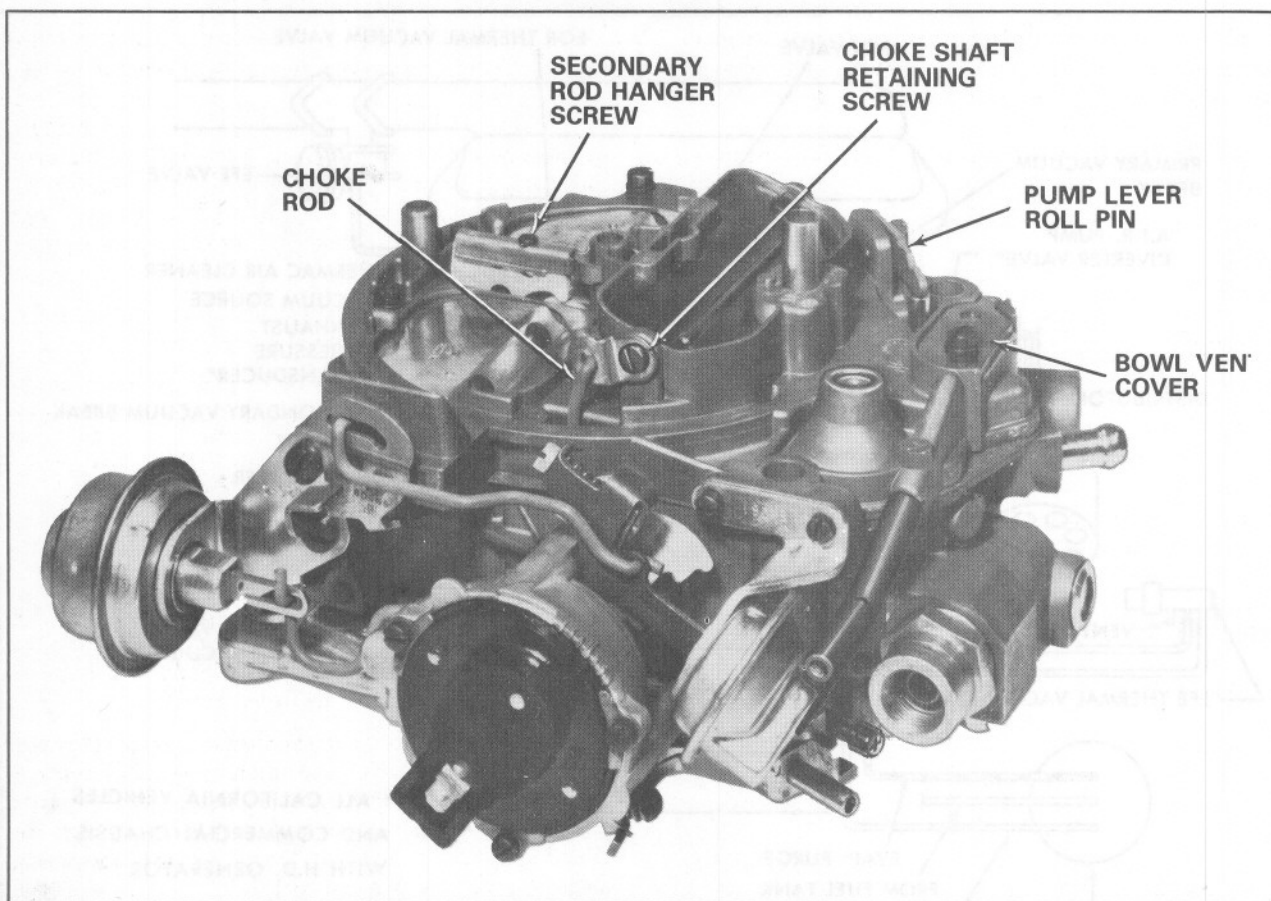

Fig. 6-30 Removing Air Horn
choke shaft by removing retaining screw, Fig. 6-30. Then rotate upper choke lever to remove choke rod from slot in lever.
4. Remove secondary metering rods by removing the small screw in the top of the metering rod hanger. Lift upward on metering rod hanger until the secondary metering rods are completely out of the air horn. Metering rods may be disassembled from the hanger by rotating ends out of the holes in the end of the hanger, Fig. 6-30.